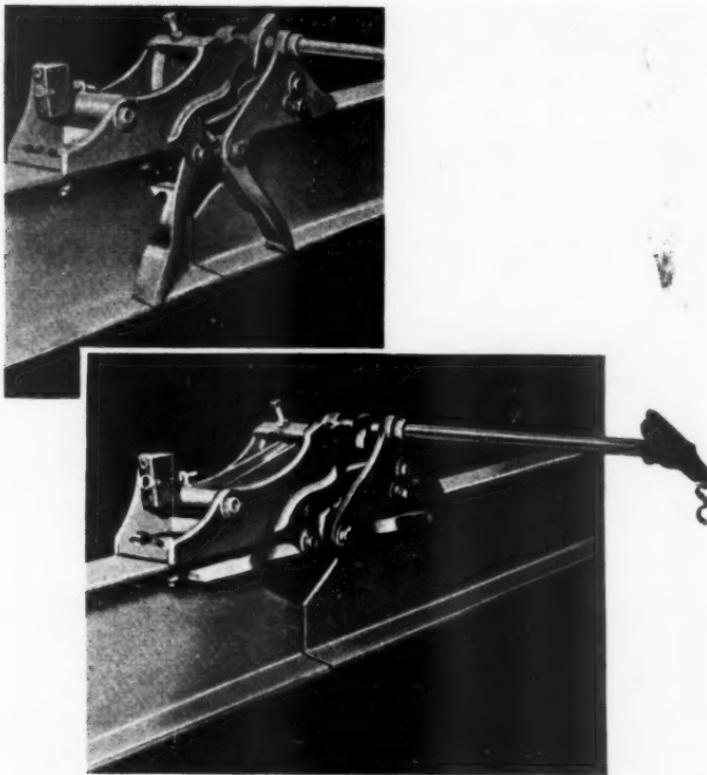

FIG. 9.
**OVERHEAD CRANES** Overhead travelling cranes are a more complicated version of the monorail runway covering a wider area, but doing a similar job. Their design and installation would call for a separate paper altogether, but there is one feature worthy of mention, namely the automatic latch, by means of which an underslung crane can be connected to a monorail runway so that the pulley blocks and trolleys can pass freely from one to another. Fig. 9 shows a crane latch in the free and locked positions. In the upper picture the crane has been lined up to the runway track, but the latch has not been locked. In the lower picture the latch has been locked and the stops raised to allow the trolleys to pass over. A cut-out switch is included, which prevents the travelling